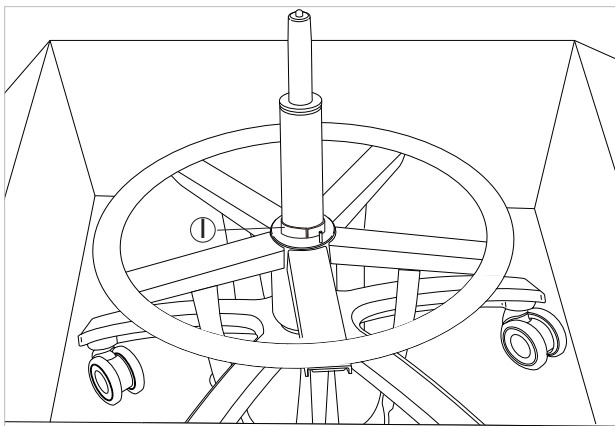
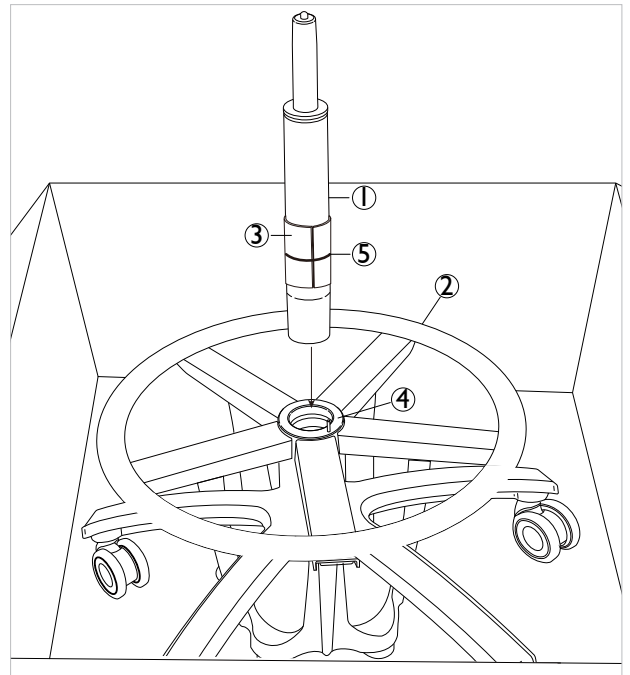
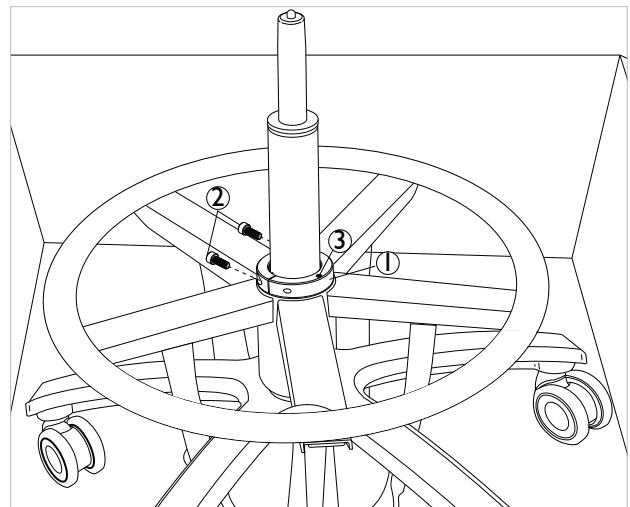

Figure 6: Inserting Plastic Sleeve and Removing Rubber Band - SA5550 and SA555 I
Figure 5: Installing the Gas Cylinder into the Stool Base - SA5550 and SA555 I
Figure 7: Tightening the cylinder clamp - SA5550 and SA555 I
- 2** Remove the Gas Cylinder (Figure 5, item 1) from its packaging.
- 3** Open the lid of the inner stool base box and insert the Gas Cylinder into the Stool Base Assembly (Figure 5, item 2).
- 4** Slide the Plastic Sheath (Figure 5, item 3) down between the Gas Cylinder and the Footring Hub Unit (Figure 5, item 4) fully seated and remove the Rubber Band (Figure 5, item 5), as shown in Figure 6.
- 5** Install the included Clamp (Figure 7, item 1) around the Plastic Sleeve (Figure 6, item 1) at the top of the Footring and tighten the two Screws (Figure 7, item 2) of the Clamp to secure the Footring to the Gas Cylinder.
NOTE: Before installing the Clamp, make sure that the hole on the Clamp (Figure 7, item 3) is aligned with the Pin pre-installed on the top of the Footring Hub Unit.